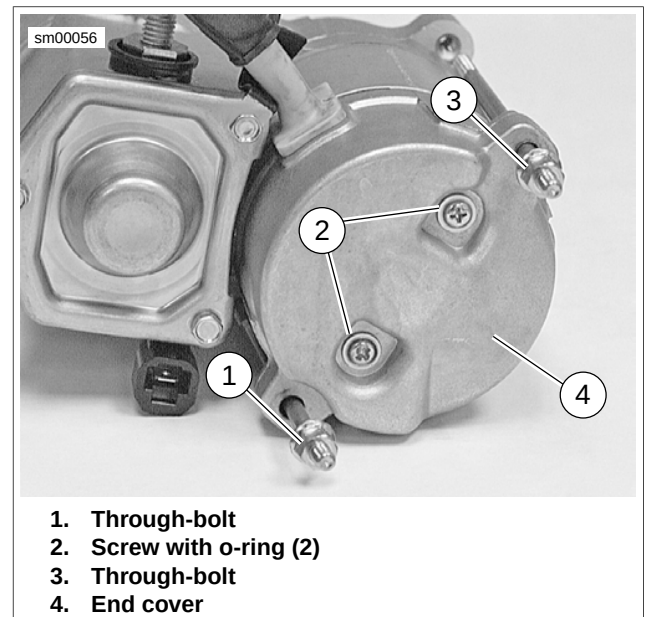

Figure 5-4. Removing Starter Through-Bolts
2. See Figure 5-4. Remove both through-bolts (1, 3).
3. Remove both end cover screws with o-rings (2) and end cover (4).